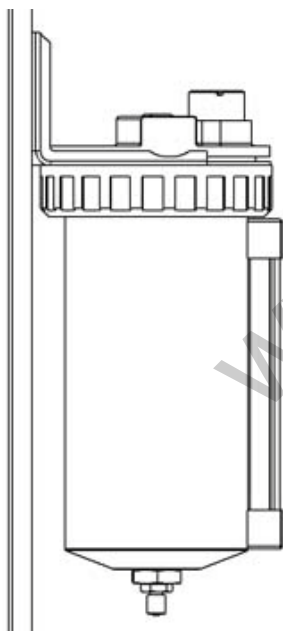
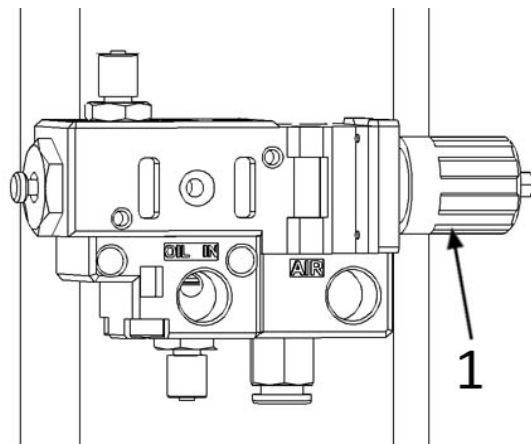
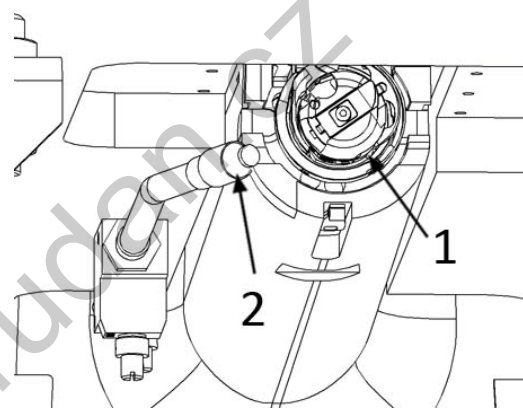

Fig. 47
Fig. 48
Fig. 50
Unlike oscillating shuttle hook, which is lubricated by central wick feed lubrication system from the central oil reservoir, rotary hook is lubricated by aerosol spray oil injected into the hook trajectory together with the flow of air (fig. 50). The machine stand (fig. 47) holds oil reservoir. It is necessary to check regularly the oil level in the transparent oil gauge window and to fill-up the oil if necessary.
The oil is transported to the nozzle by diaphragm pump (fig. 48). Membrane is driven by air pressure. Amount of oil is regulated manually by screw (1). Correct amount of oil corresponds to 1.5 revolution of the screw (1) from the closed position. Check the amount of oil by inserting a piece of paper between the nozzle and the hook (fig. 50). The paper should not be dry, nor should it be full of oil. There should be evenly spreaded small particles of oil on the paper.
Oil is mixed with air in the nozzle (2) - see fig. 50, which is directed towards the point of hook lubrication. The whole mechanism is adusted from the production plant, however, it is recommended to make regular check-up of the setting to ensure correct function and long operation life of the hook.